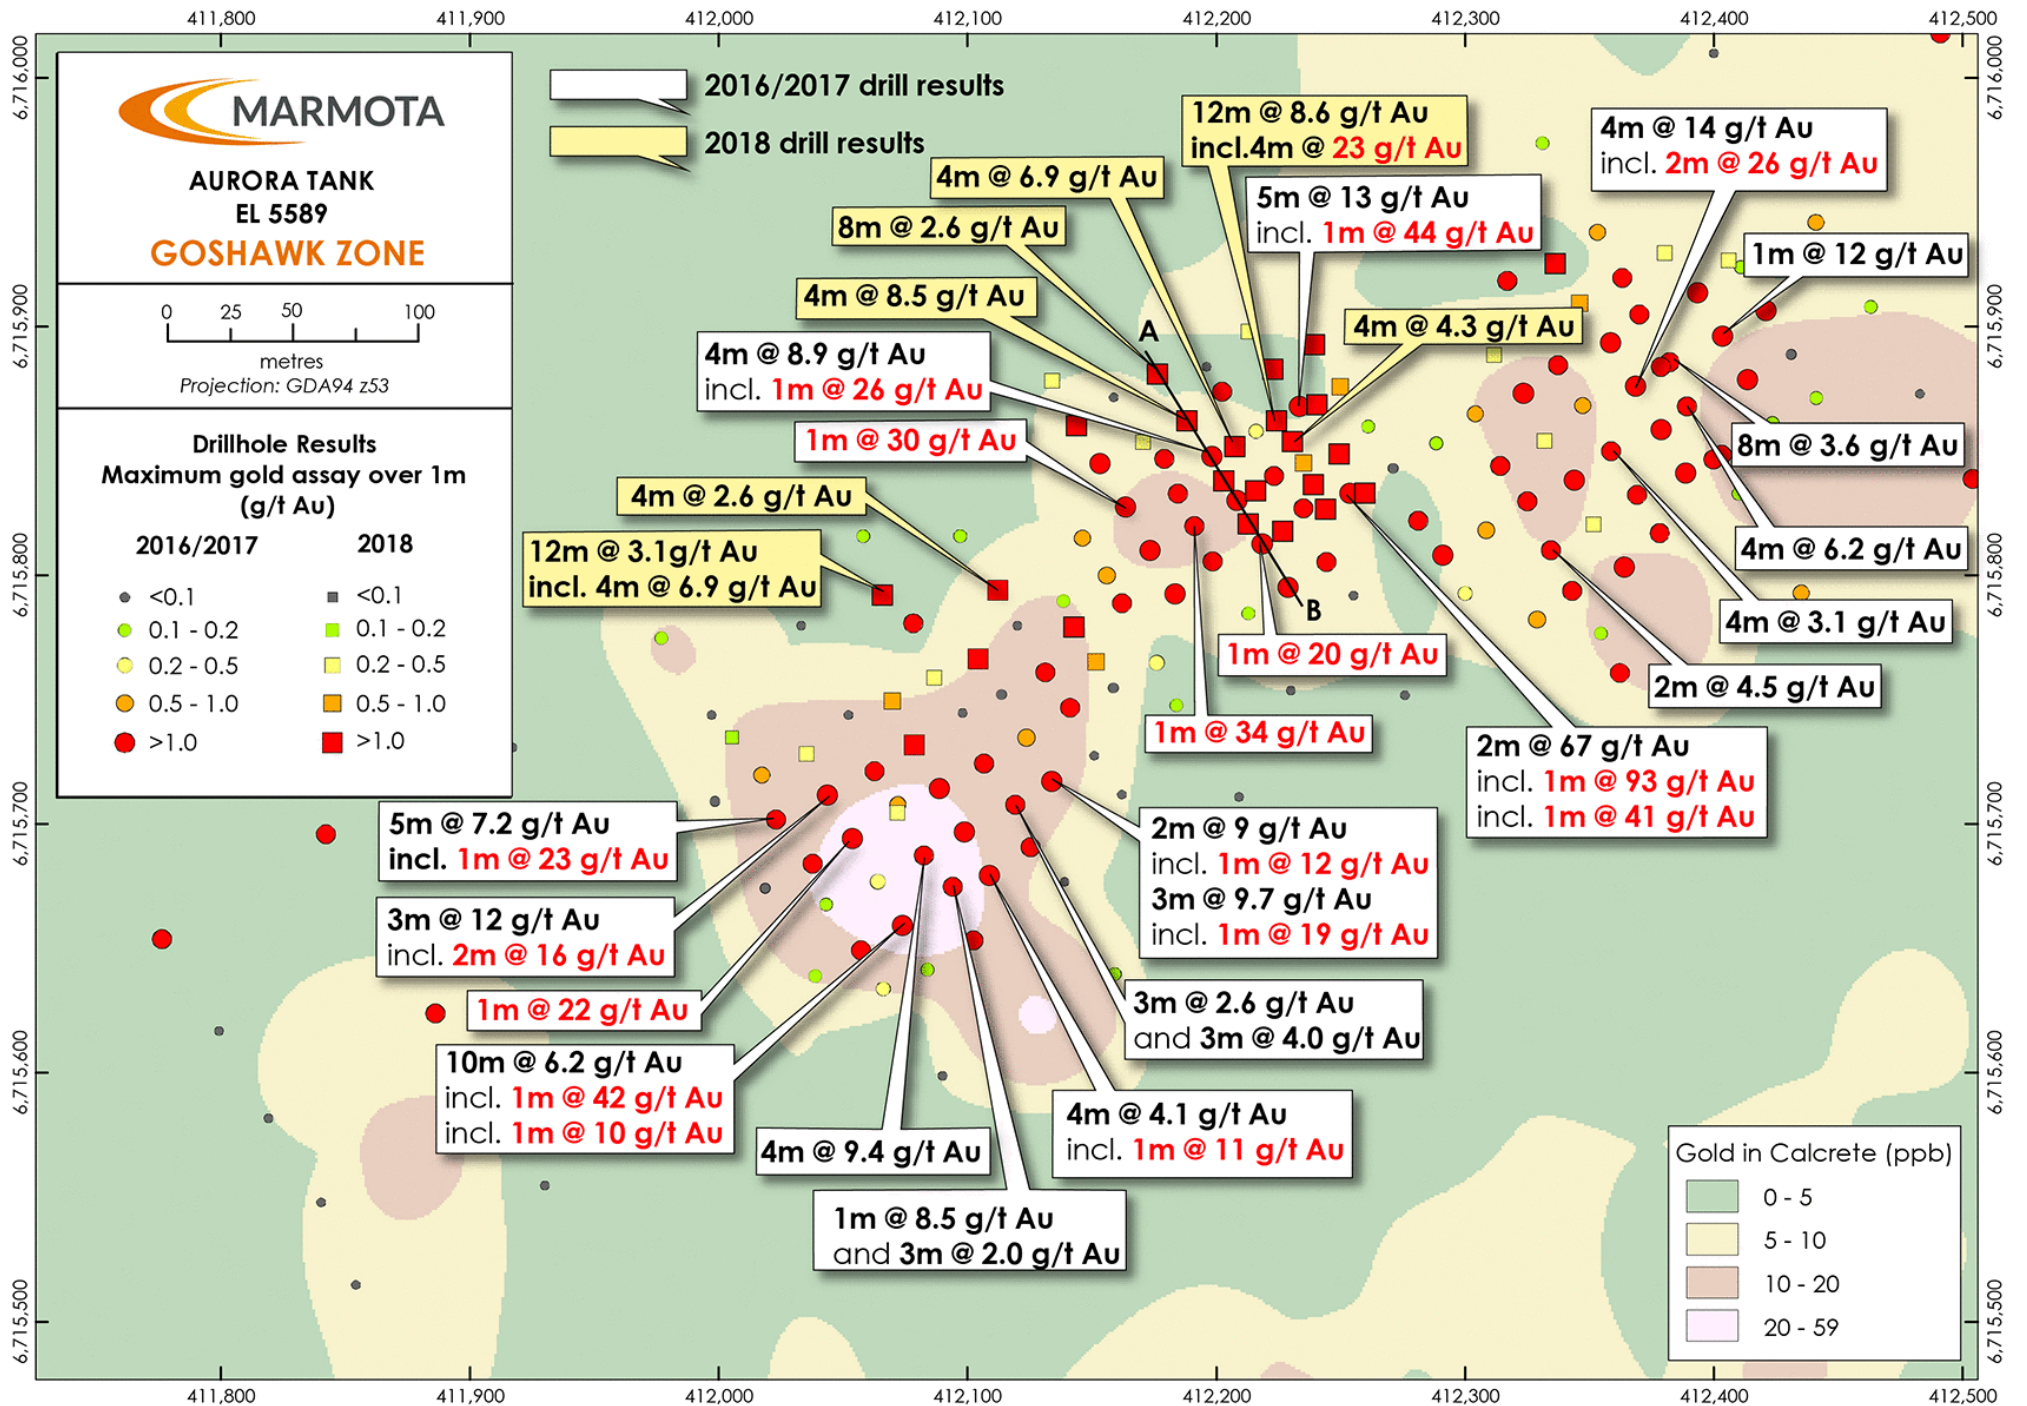

Figure 1: Aurora Tank – Best downhole gold results
**Figure 3:** Long section (30m wide window) showing extensions, down-plunge continuity ... and open [ Inset plan shows line of long section, superimposed on Figure 1 ]